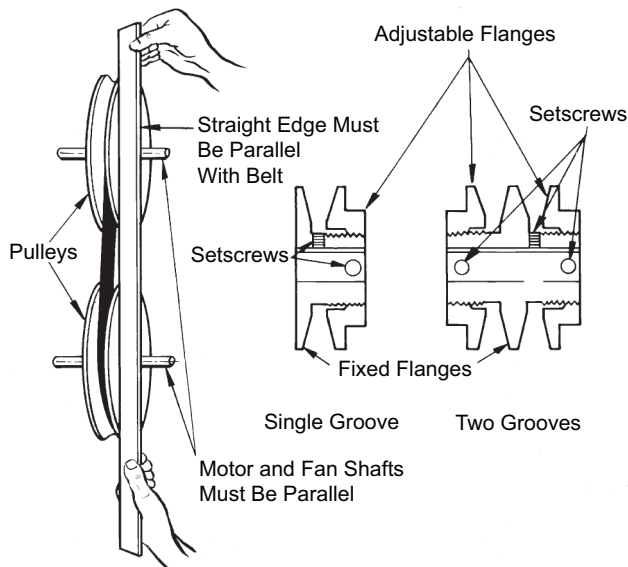

Fig. 26 — Fan Pulley Adjustments
3. Use the methods shown in Fig. 26 to check proper pulley alignment.
2. Loosen setscrew in movable flange of pulley. Screw movable flange toward fixed flange to increase the fan speed and away from fixed flange to reduce speed. Before tightening setscrew, make certain that setscrew is over nearest flat surface of pulley hub. (See Fig. 26.)